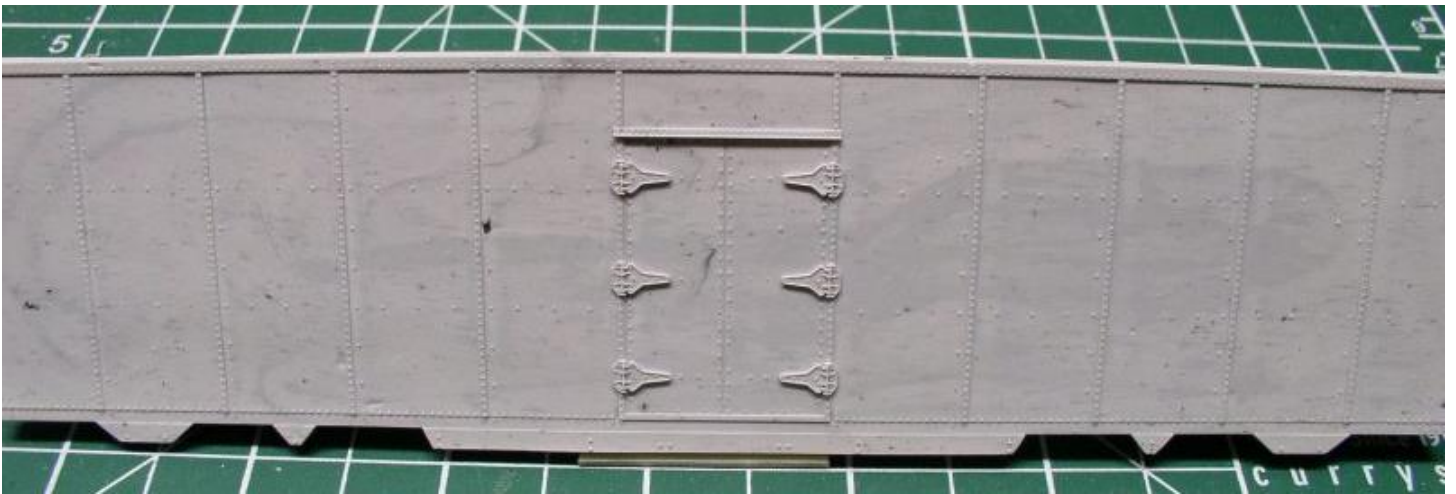

Figure B1 - Original Upper Door Frame
1. Before you start on the Sides, decide whether you want to use the early or the later patch that was used over the doorway. This was done if it was deemed necessary when the car was shopped. Not all cars got this feature. Some were scrapped with the original top door frame intact. Series one was rebuilt 1946, the second and third were in 1949. They seemed to all use the early style. The fourth was in 1952 and it used the later style. There is no data on the later Series but they most likely used the later style. If you wish to add the early patch, go to Step 2. If you wish to use the later patch, go to Step 2a. See Figures B1, B1a and B1b for the differences in sides.